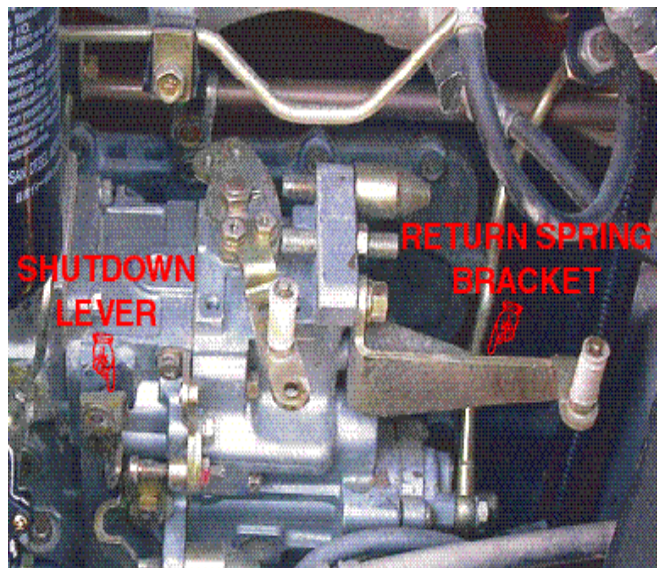

FIGURE 4
4. Remove the two return springs and the return spring bracket at the rear of the injection pump, and the existing shutdown lever on the side of the injection pump. See Figure 4 on the right.